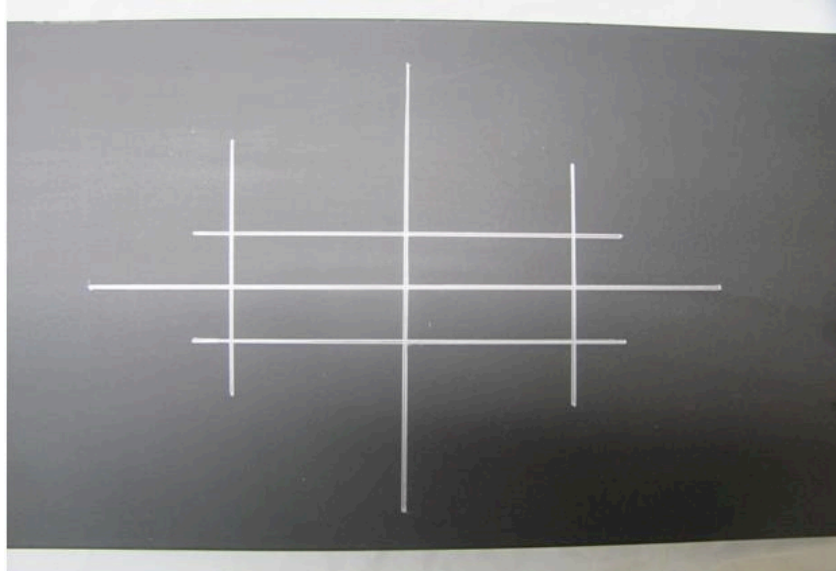

Figure 9: Tiltmeter Location Marked for 4 Tabs
3. To complete the locating sequence, make two marks at approximately 1.8 in (46 mm) on either side of the transverse centerline and two marks at 0.6 in (15 mm) above and below the longitudinal centerline as shown in Figure 9. An alternate way of marking these locations is to hold the tiltmeter in place over the two centerline marks and making small marks where the tabs will be installed, then use a T-square to complete tab marking.